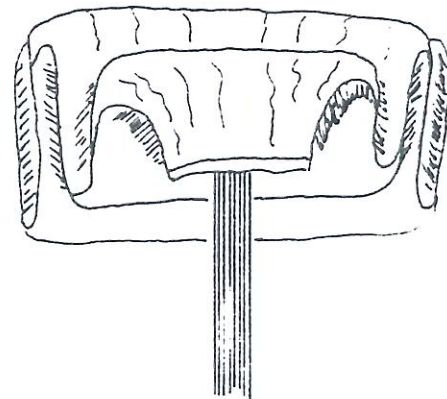

FIG. 4
- 6) Stack the canopy in "S" folds as shown in FIG. 4, keeping the slider up against the canopy and keeping the slack out of the lines. The stacked canopy should be 3-4 inches wider than the bag.